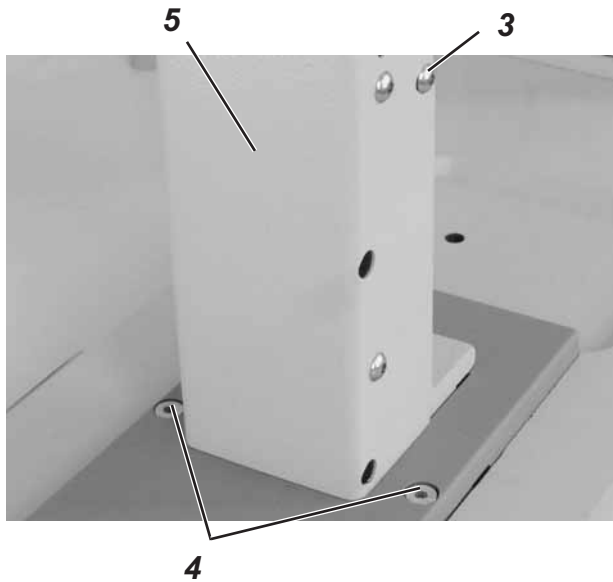

Fig. 2
- Loosen screw (3) and the two screws (4). Displace the post bed feed (5) so that rule 2.1 (A) = 0,1 mm according to fig. 1 or rule 2.2 according to fig. 2 is accomplished.